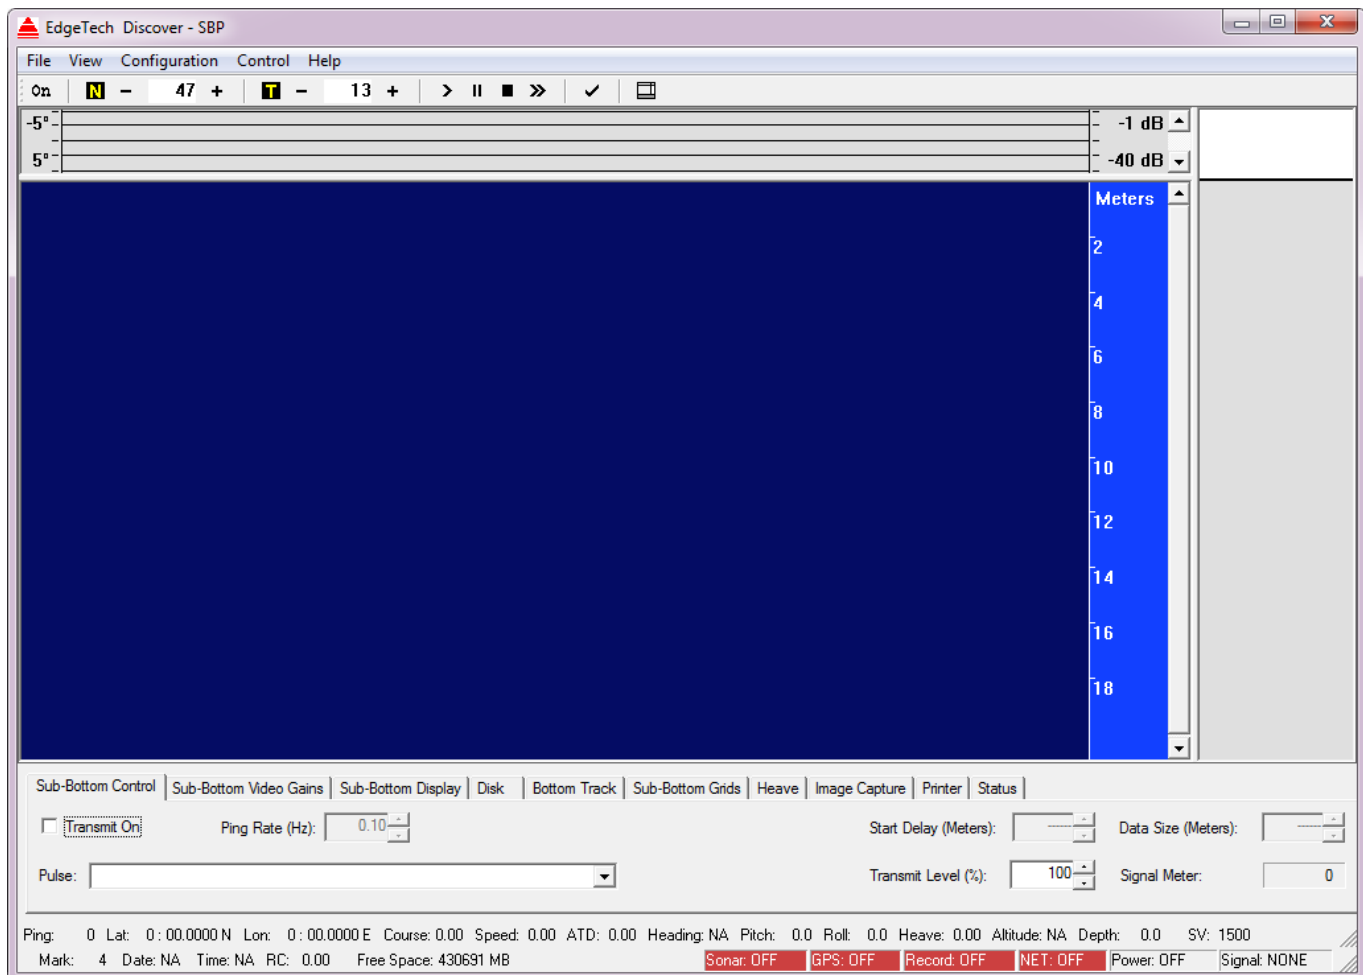
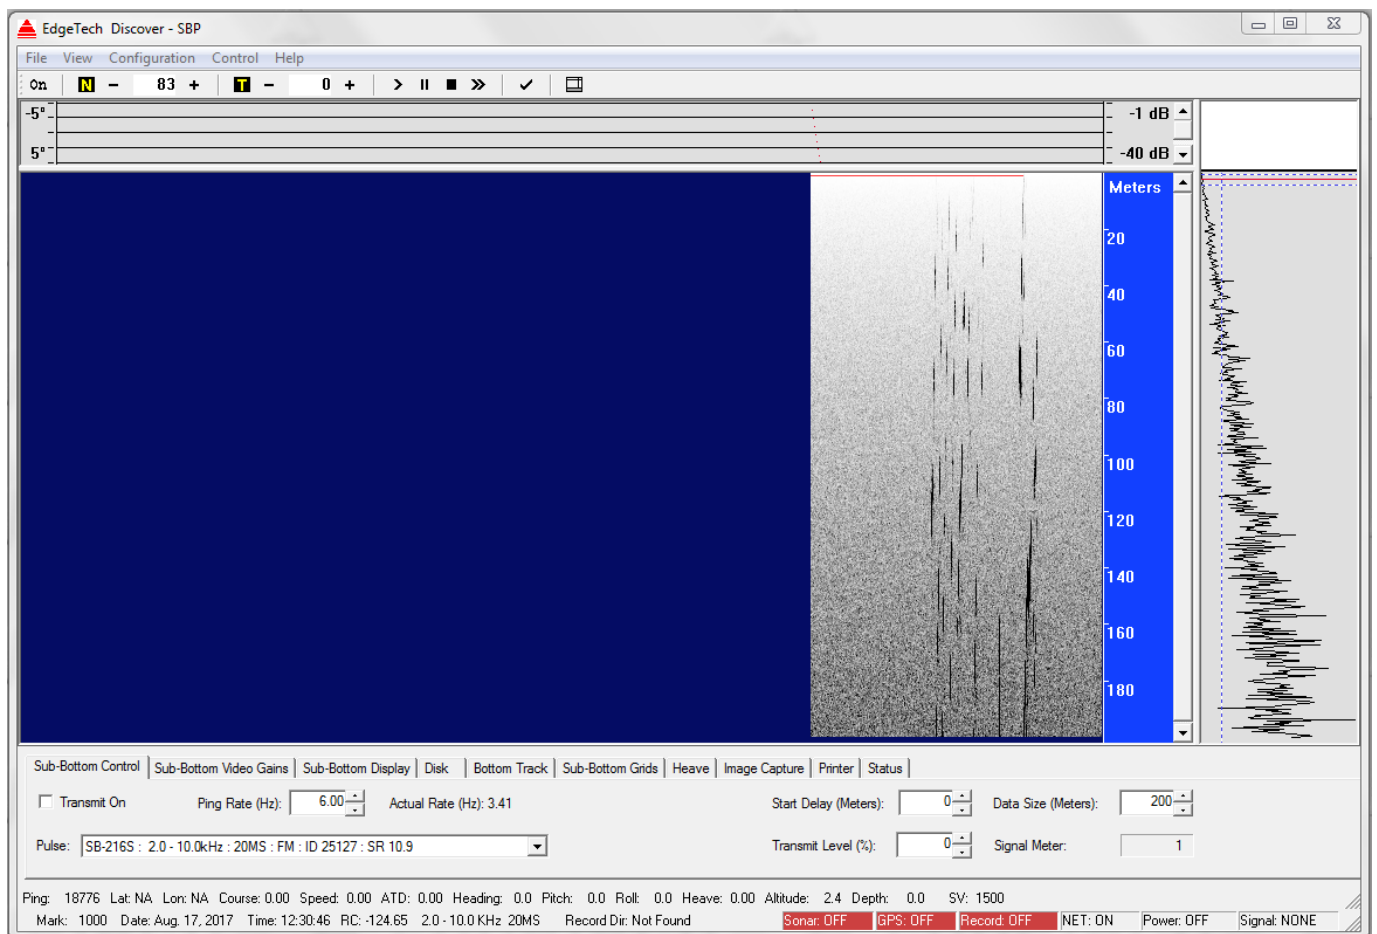

Figure 3-5: The DISCOVER Sub-Bottom Main Window
Figure 3-9: Tap Test
2. Tapping the fiberglass shell with a hand or, gently, with a screwdriver handle near the hydrophone arrays while observing the Waterfall Display in DISCOVER, ensuring it plays back and navigation is present. DISCOVER is shown in FIGURE 3-5. An example Tap Test is shown in FIGURE 3-9.
8. Tap the underside of the tow vehicle near the hydrophones with the handle of a screw driver, while observing the Waterfall Display in the DISCOVER window. Streaks or noise spikes should be visible in the Waterfall Display, as shown in **FIGURE 3-9**. This verifies the receive channel is operating.